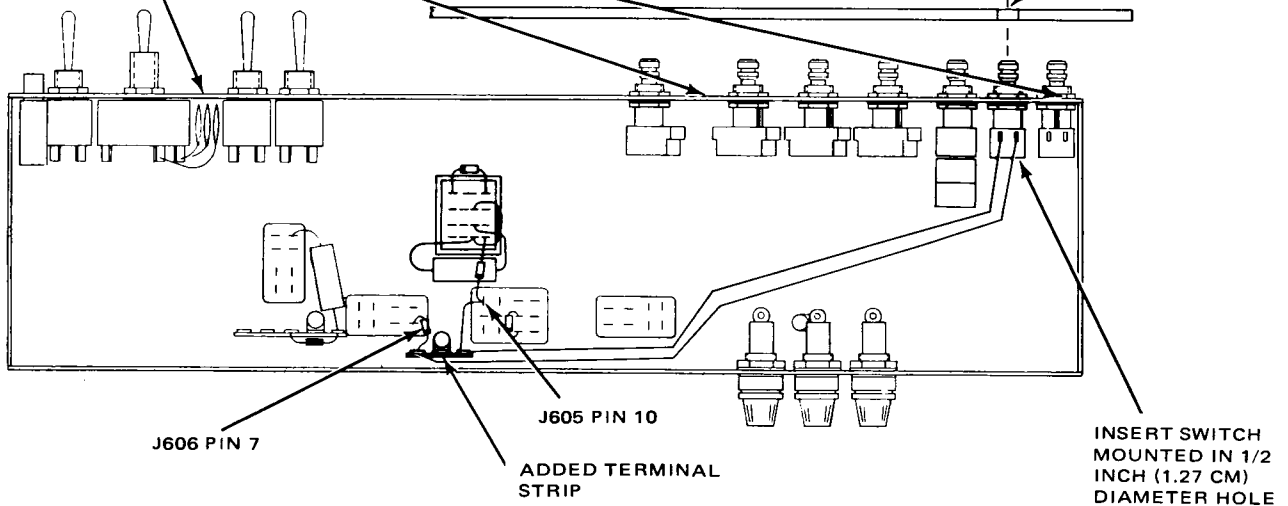

Figure 2-6. Insert Switch Mounting Details
- See Figure 2-6 for the location of mounting screws.
8. Drill a 1/8-inch diameter hole to mount the two-terminal strip shown in Figure 2-6.
9. Install the terminal strip and the new insert switch as shown in Figure 2-6.
12. Install a jumper between pin 10 of J605 and the nearest terminal of the newly installed terminal strip (see Figure 2-6).